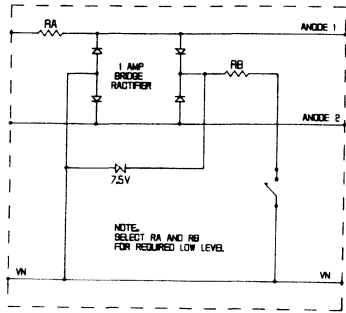

Fig.11 TWO LEVEL BRIGHTNESS CONTROL
- 2. Day/night brightness (two level) Fig.11